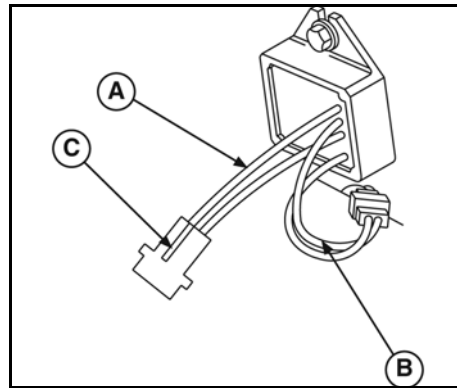

Figure 30
The regulator-rectifier #493219 is used by OEMs that have a charging indicator light instead of an ammeter. In addition to the RED DC output wire (A, Figure 30), the regulator-rectifier has a blue wire (B) to activate a charging indicator light when battery voltage is below 12 volts. The connector has a raised rib (C) on the red wire side to indicate the output side of the connector.